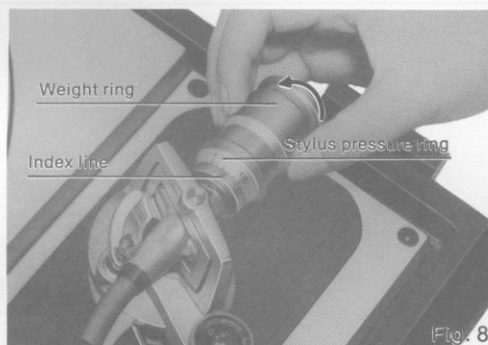

Fig. 8
5. Next turn the weight ring, and set it to the numerical value corresponding to the rated stylus pressure of the cartridge to be used (Fig. 8). Because the stylus pressure ring also moves when the weight ring is turned, the calibration can be read directly, thus making it easy to correctly adjust the stylus pressure.